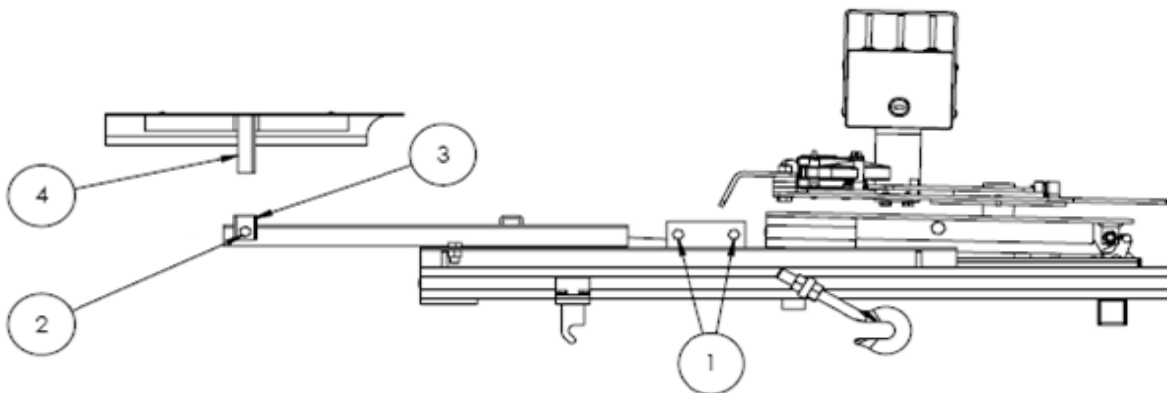

Figure 1.6
11.) Adjust the Footrest –Horizontal (SEE: Figure 1.6)
12.) Adjust the Footrest – Vertical (SEE: Figure 1.6)